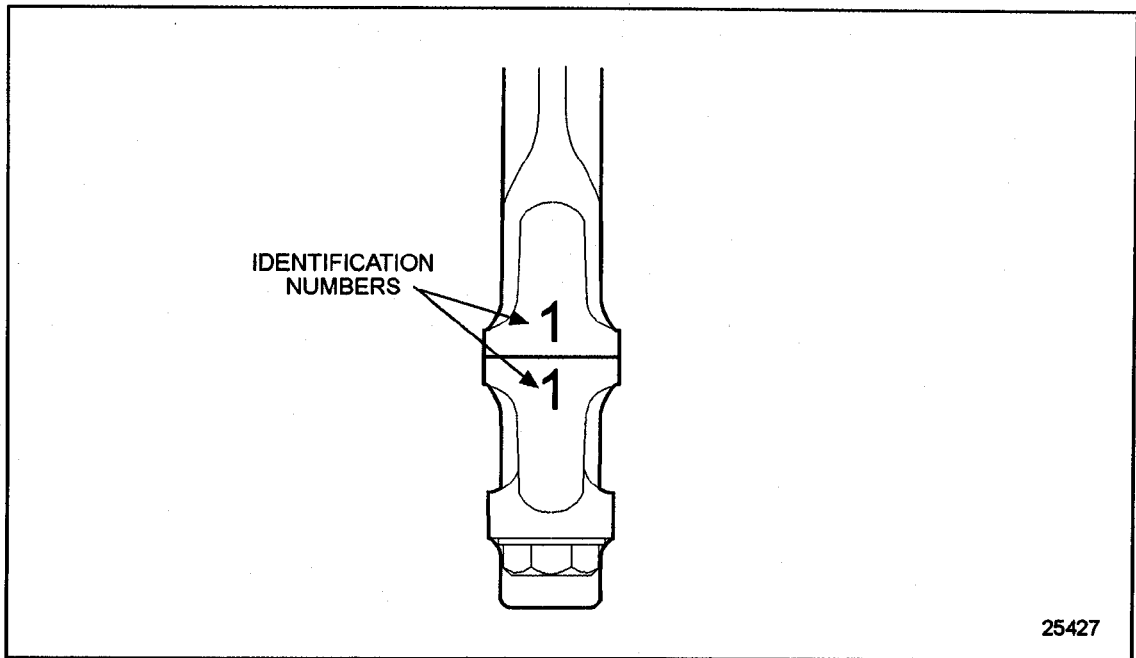

Figure 1-258 Connecting Rod and Cap Identification
10. Assemble the bearing cap and lower bearing shell to the connecting rod after removal. If not already marked, match-mark the rod and cap (on the tang side) with the cylinder number from where they were removed. See Figure 1-258.